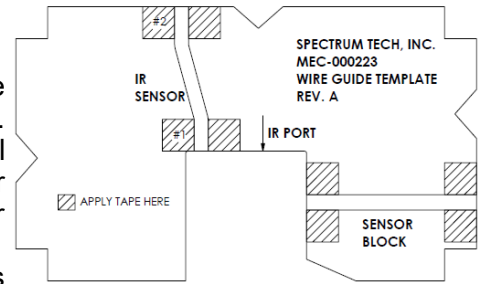

Figure 1
1. A copy of the template (fig. 1) is shipped with the IR sensor. A printable version of the template is available on the product page for the sensor. When printing the template, be sure your print setting is set to "Actual Size". It is recommended that the printout be done on card stock rather than typical printing paper. This ensures the template will lie properly over the batteries. Cut out template with scissors.